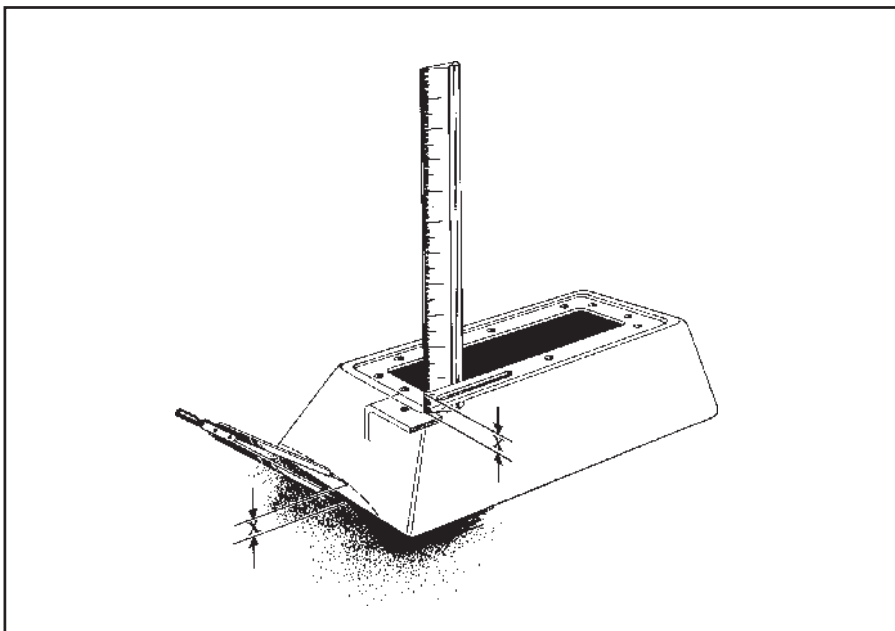

Figure 9
STEP 29. Place tower over shifter mechanism until the bottom edge of the tower touches the floor. Put the shifter cover and indicator cable through the opening in the top of the tower. Hold the tower level to the shifter with the bottom of the tower touching the highest surface on the floor it will come into contact with, see **figure 9**. Use a ruler to measure the distance X from the underside of the tower to the tower mounting brackets on the shifter mechanism.
while the other touches the tower, see **figure 9**. Using the dividers, scribe a line around the tower that follows the contour of the floorboard. Remove the tower and trim at the scribe line using tin snips. Once tower is properly trimmed, install it using two flat head sheet metal screws. The indicator cable should be routed out the top of the tower on the right side while the tower is being installed.